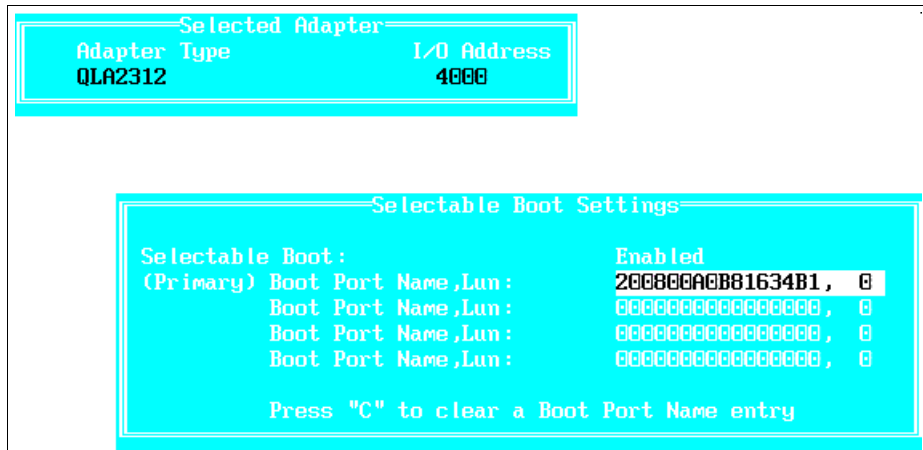

Figure 2-4 Boot setting configuration
6. To enable and map the boot device, set the **Boot LUN** to reflect LUN 0. The result will appear similar to our example shown in Figure 2-4.